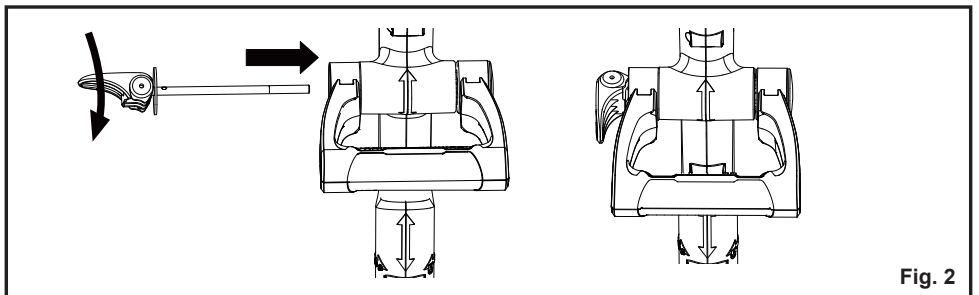

Fig. 2
4. Insert the auxiliary handle quick release knob and tighten clockwise by hand. To lock the auxiliary handle in place, fold the knob inwards using moderate force. If it feels too tight when folding in, turn it anti-clockwise to loosen. Do not use excessive force (Fig. 2).